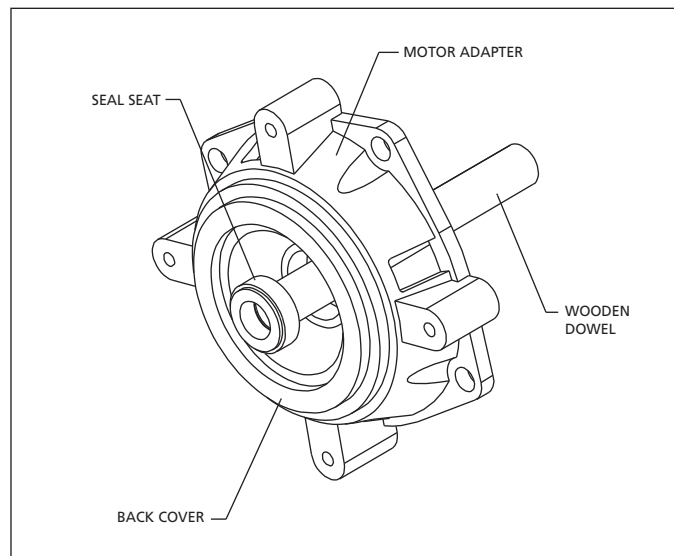

Figure 5 - Seal Seat Removal
- Use a wooden dowel to push out the seal seat (Ref. No.4) from the adapter (Ref. No.2) (see Figure 5).